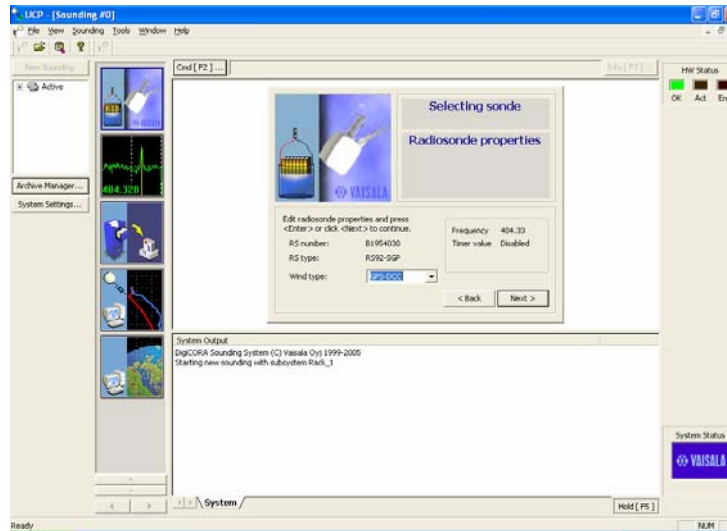

Figure 9a
- 8) When the coefficients have been read 100%, click on "Next," and you will see the following screen (Figure 9a). Verify the serial number and radiosonde type, and then click on "Next."